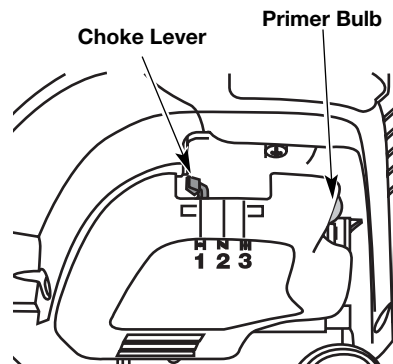

Fig. 8
**WARNING:** Avoid accidental starting. Make sure you are in the starting position when pulling the starter rope (Fig. 8). To avoid serious injury, the operator and unit must be in a stable position while starting.
**NOTE:** There is no need to turn the unit on. The On/Off Stop Control is in the ON (1) position at all times.
3. Fully press and release the primer bulb 10 times, slowly. Some amount of **fuel should be visible in the primer bulb and fuel lines** (Fig. 8). If you can't see fuel in the bulb, press and release the bulb as many times as it takes before you can see fuel in it.
4. Place the choke lever in **Position 1** (Fig. 8).
6. Place the choke lever in **Position 2** (Fig. 8).
9. Place the choke lever in **Position 3** (Fig. 8). The unit is ready for use.